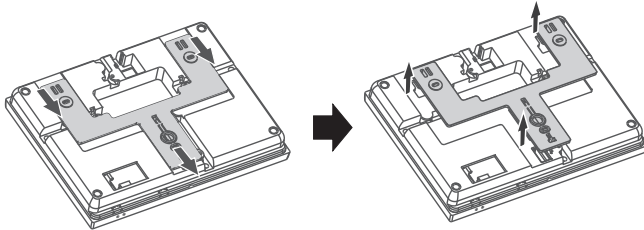

Fig. 2-1
A. Push the bracket up to loosen and remove the bracket, like Fig. 2-1: